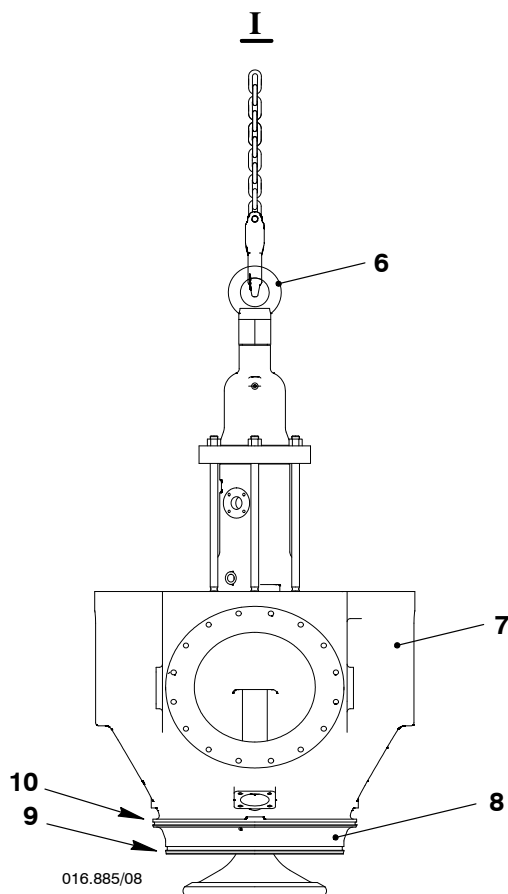

Fig. 2
- 1) Remove the two round nuts (3), refer to the procedure given in 9403 4, paragraph 1 and paragraph 2.
- 2) Disconnect the electrical connection (7) from the valve stroke sensor.
- 3) Put the slings (94049A, Fig. 2) in position on the expansion piece (4) as shown.
- 6) Remove the 16 screws (5).
- 7) Remove the 16 nuts (3) and the bolts (2).
- 8) Move the expansion piece (4) to one side.
- 9) Lower the expansion piece (4) on to an applicable surface.
- 10) Attach the engine room crane to the eye bolt (6).
- 10) Attach the lifting tool (94209) to the eye bolt (13, Fig. 2).